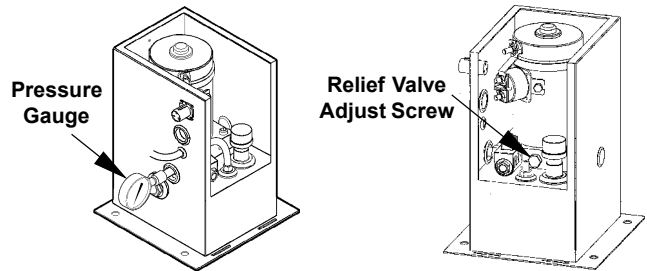

FIGURE 2
7. With Platform on the ground, remove the pressure hose and fitting from the Pump and replace it with a 0-3000 PSI Pressure Gauge. Hold the switch in the "UP" position. Adjust the Relief Valve on the side of the Pump until the gauge shows 2800 to 3000 PSI **(See Fig. 2).**